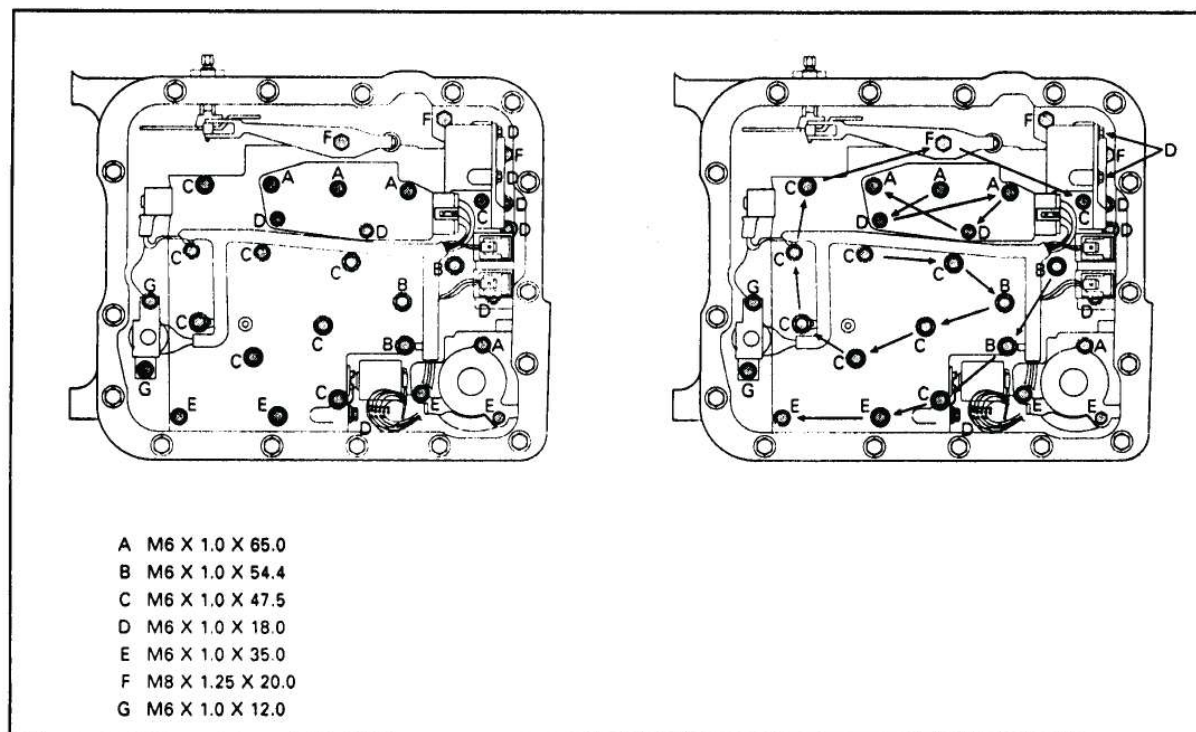

Figure 162
10. Install the two retaining bolts for lock-up solenoid and torque the bolts to 8 ft.lbs. (See Figure 162).
11. Install the three remaining valve body bolts to retain the wiring harness, and torque the valve body bolts to 8 ft.lbs. (Figure 162).
12. Start in the center of the valve body and follow the arrows in Figure 162 for torquing sequence.
14. Install the proper bolts (2 Short & 3 Long) in pressure switch assembly and torque to 8 ft.lbs (Fig. 162).